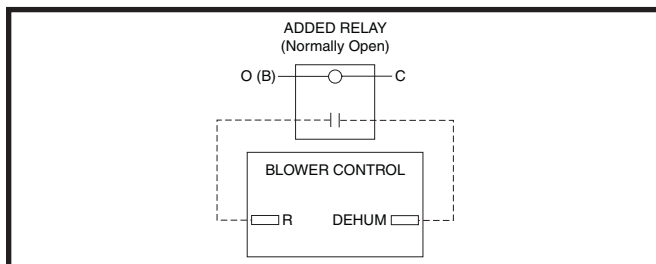

Figure 24. DEHUM Wiring Configuration without Humidistat
- If a humidistat is not available, it is an acceptable option to connect the **R** & **DEHUM** via a field supplied normally open relay. See Figure 24 (page 26). The **R** & **DEHUM** terminals should be connected across the normally open relay terminals. The O (B) & C terminals should then be connected across the relay coil. This option causes the blower to run at a reduced CFM for 10 minutes after a call for cooling.